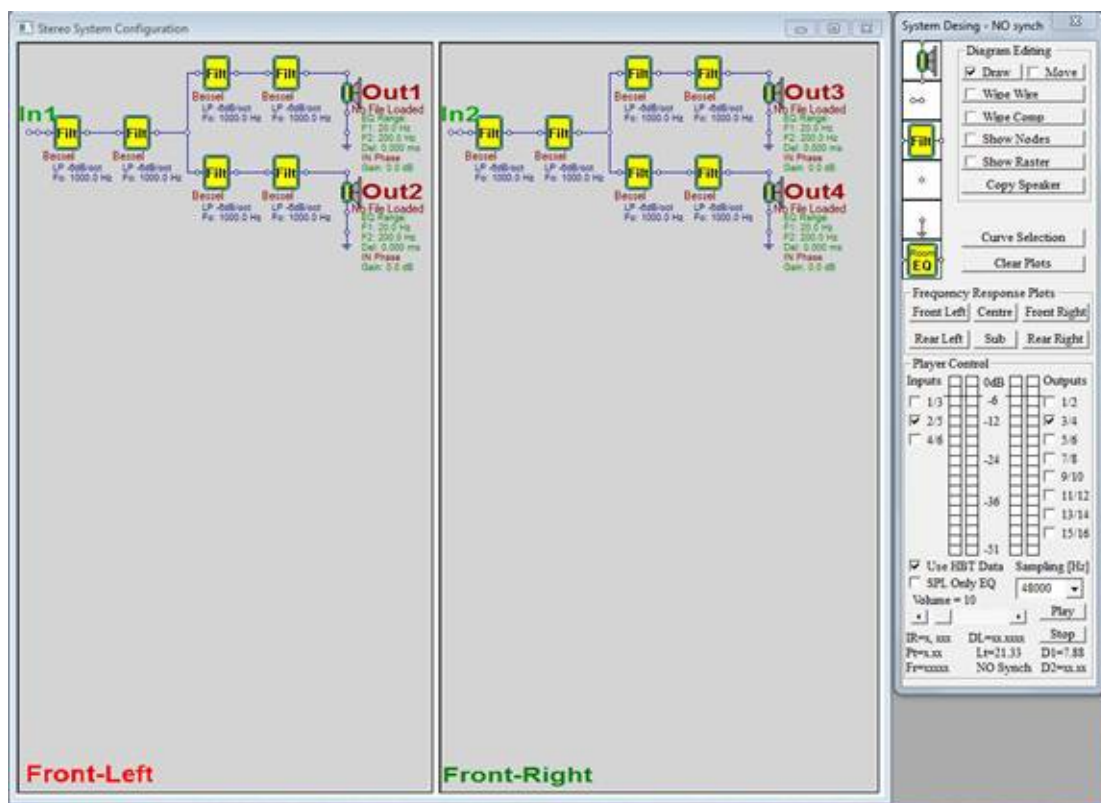

Figure 126. Front-Left shown in **RED** indicating the front left speaker channel is ready for editing.
- Right click on any area of the CAD screen for the channel you which to design. The channel label in the lower left hand corner of the selected channel will turn **red** indicating that speaker is ready for editing, Figure 126.